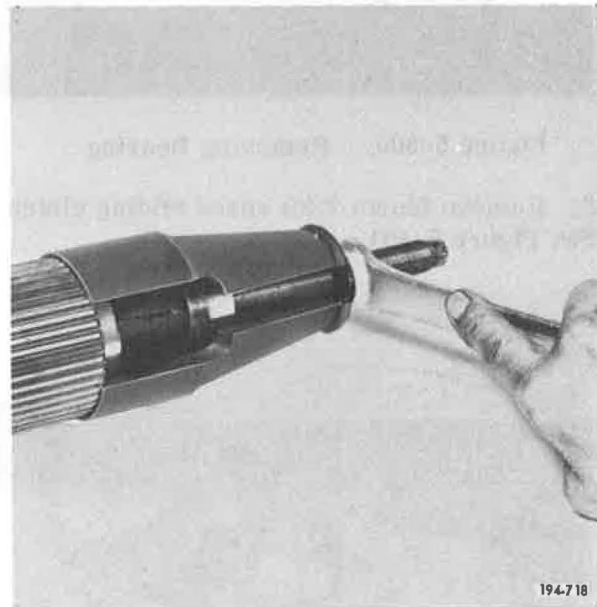

Figure 5-308. Removing Bearing
2. Remove rear mainshaft front bearing, using tool S-501. See Figure 5-308.